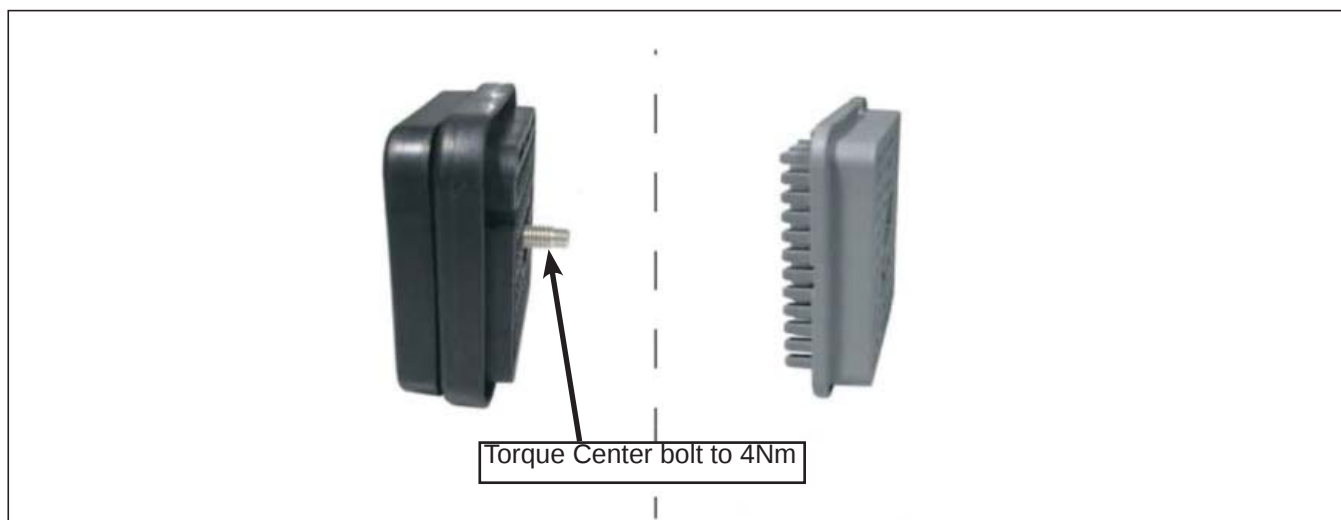

Figure 5 - X6499A Connector
- 1.5. Install wedgelocks on connector X6499A plug (see Figure 5).
- 1.6. Install connector X6499A and torque center bolt to 4 Nm (see Figure 5).